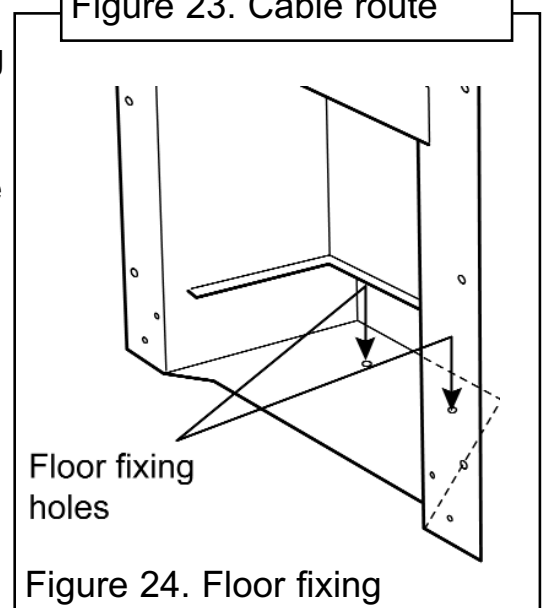

Figure 24. Floor fixing
8. Drill a hole into the fireplace floor through each of the two holes in the base of the convection box using a using a suitably sized masonry drill bit for the wall plugs supplied (See figure 24).